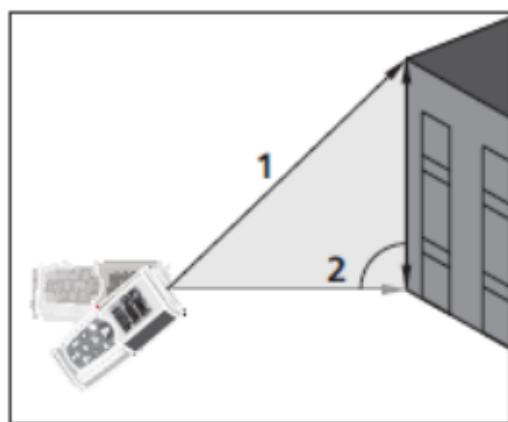

Fig. 7: Indirect 2-point measurement
horizontally as possible (2) (see Fig. 7) and press the  key to measure. The result appears on the second partial display
5. The final value of the result (obtained as  $\sqrt{(1)^2 - (2)^2}$ ) is shown in the resulting display